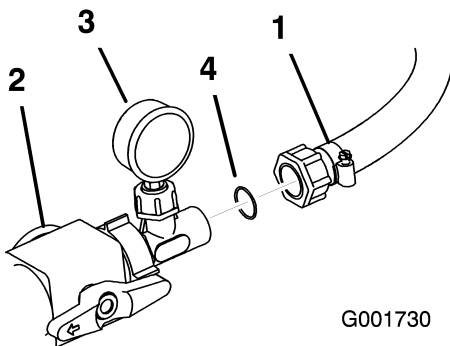

Figure 14
15. Install a plastic O-ring between the pressure gauge assembly and hose leading to the reel assembly. Connect the hose to the assembly (Figure 14). Tighten the plastic nut on the hose to secure it to the pressure gauge assembly.